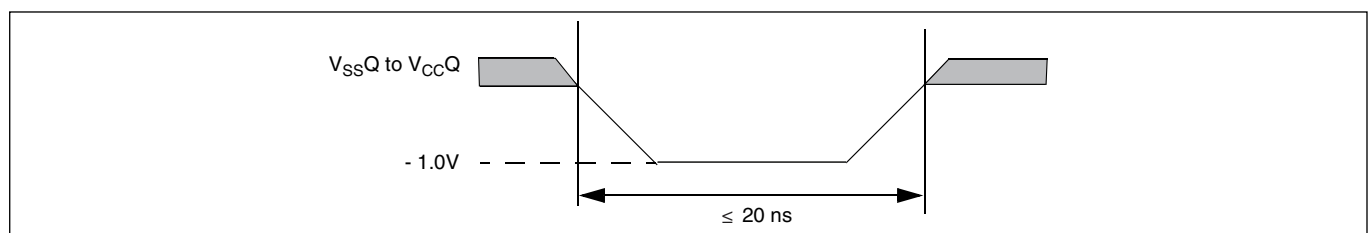
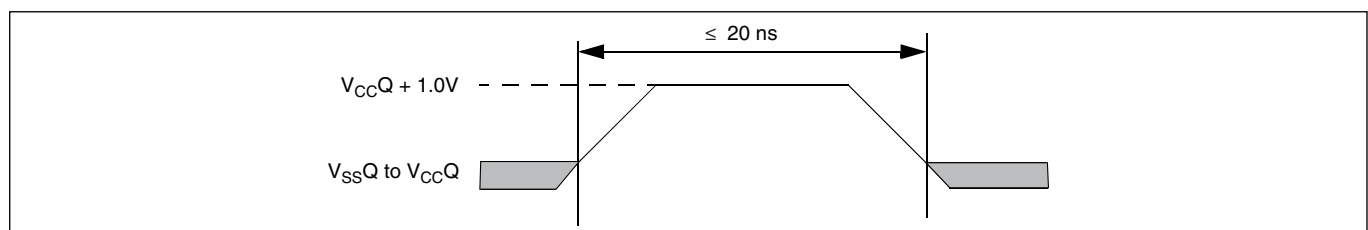

Figure 21 Maximum negative overshoot waveform
Figure 22 Maximum positive overshoot waveform
29. Minimum DC voltage on input or I/O signal is -1.0V. During voltage transitions, input or I/O signals may undershoot V_{SS} to -1.0V for periods of up to 20 ns. See Figure 21. Maximum DC voltage on input or I/O signals is V_{CC} + 1.0V. During voltage transitions, input or I/O signals may overshoot to V_{CC} + 1.0V for periods up to 20 ns. See Figure 22.